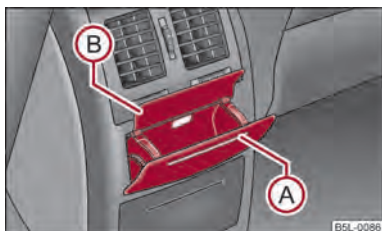

Fig. 73 High centre console: Rear ashtray
- Press on the top part of the cover of the ashtray in area **A** ⇒ fig. 73.